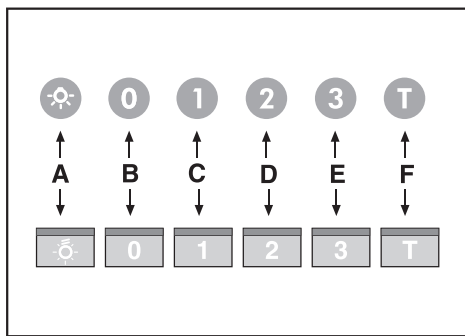

Fig.8
• **Commands luminous (Fig.8)** the key symbols are explained below: